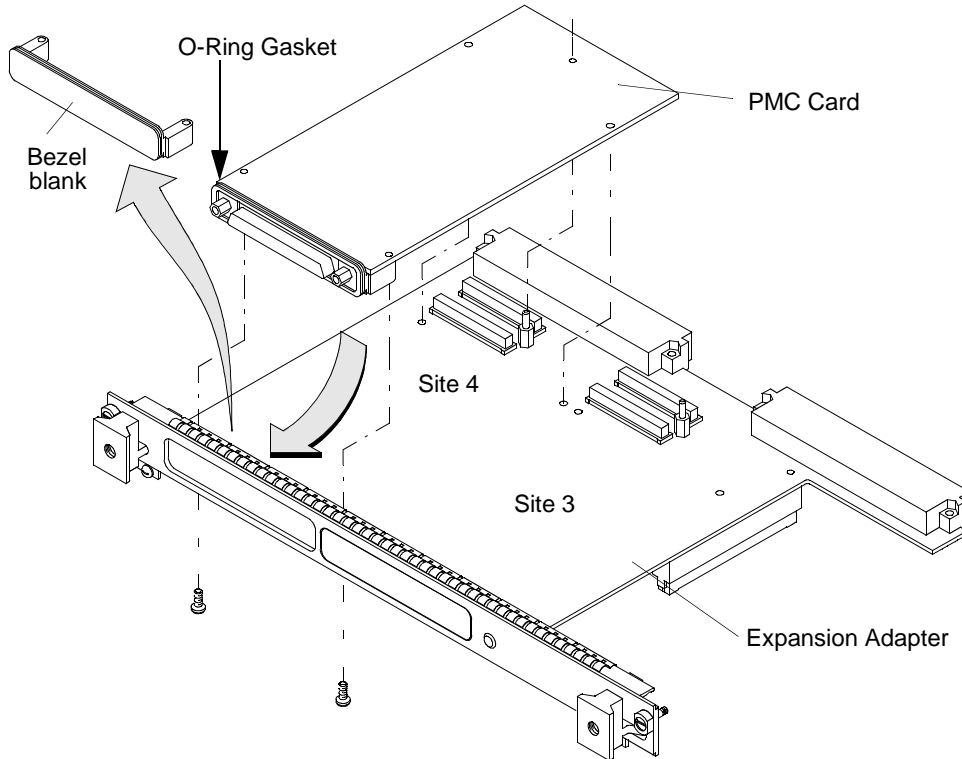

Figure 4-4 Installing a PMC Card onto the Expansion Adapter
- 5 On the PMC expansion adapter, remove the bezel blank(s) from the sites where you will be installing the PMC card(s). See Figure 4-4.
- 6 Install PMC card(s) onto the expansion adapter by aligning the front of the card with the front bezel, and the rear of the card with the connectors and keying pin. See Figure 4-4. There are four screws that secure the PMC card from the bottom of the expansion adapter.